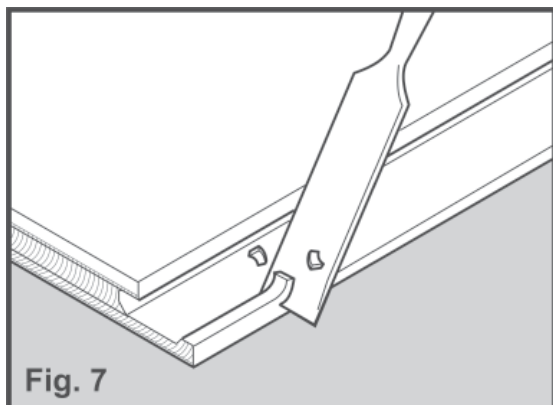
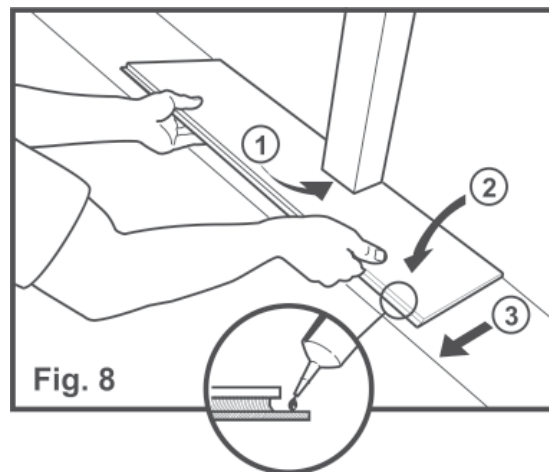

Fig. 7
Fig. 8
- If boards cannot be easily angled under door frame or similar, cut away locking edge as shown in Fig. 7. Then apply Landobond adhesive and install board as shown in Fig. 8.